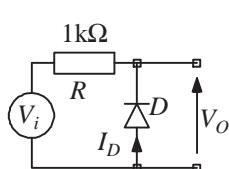

Figure 1
- Q1** For the circuit of figure 1, sketch the $V_O - V_i$ and $I_D - V_i$ characteristics that you would expect to observe over the range $V_i = -10V$ to $V_i = +10V$ if the diode has a forward voltage drop of 0.7V.